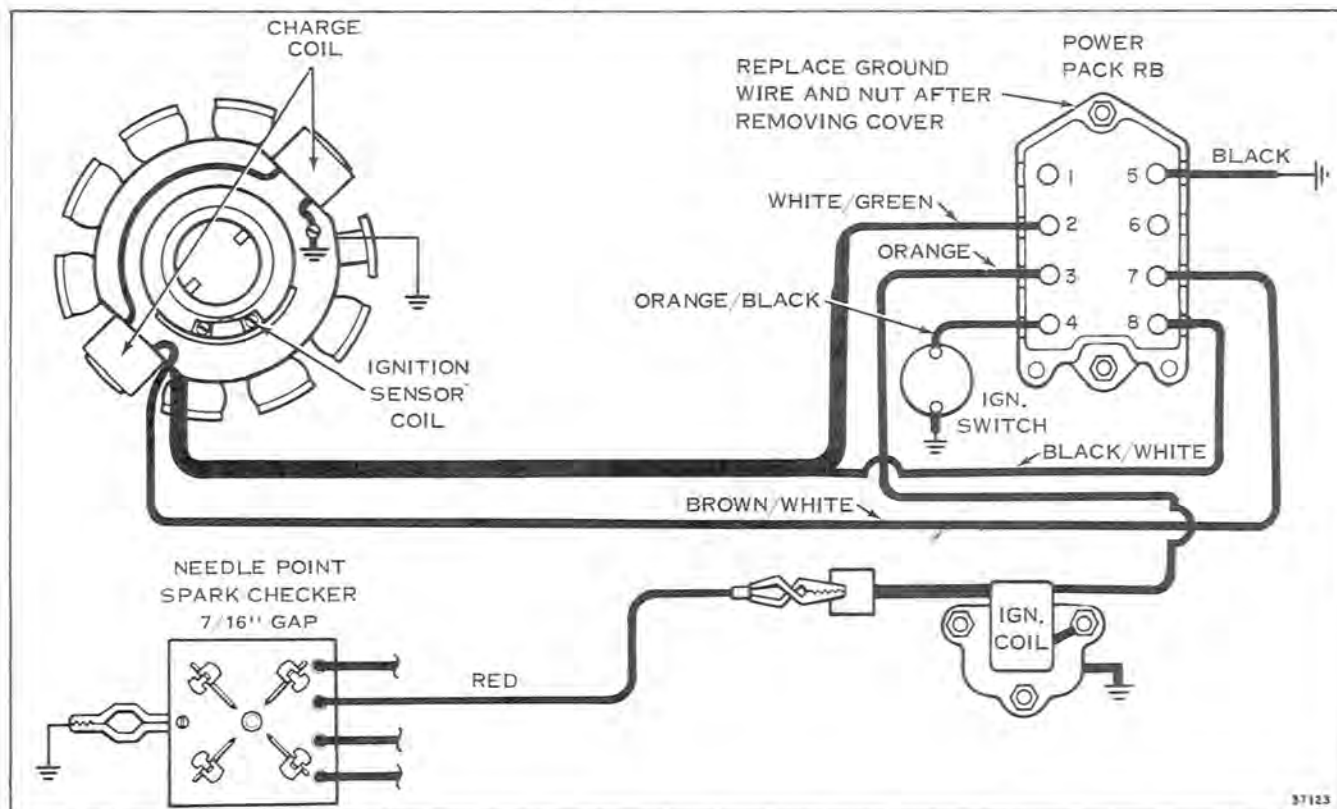

Figure 7-10
- B. Connect spark gap checker with 7/16" gap. See Figure 7-10. Remove spark plug. (See optional Kilovolt Test page 7-26.)
- C. Crank engine with starter. If cranking manually, put ignition switch in "Run" position and use rewind starter. See Figure 7-10.